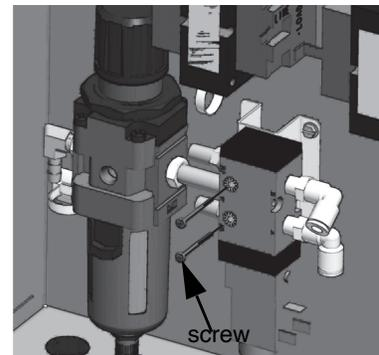

Figure 58.
4. Shut OFF the air flow valve at rear side of unit and disconnect the tubes connected to pressure regulator as well as on direction control valve Remove the two screws from the Figure 58.